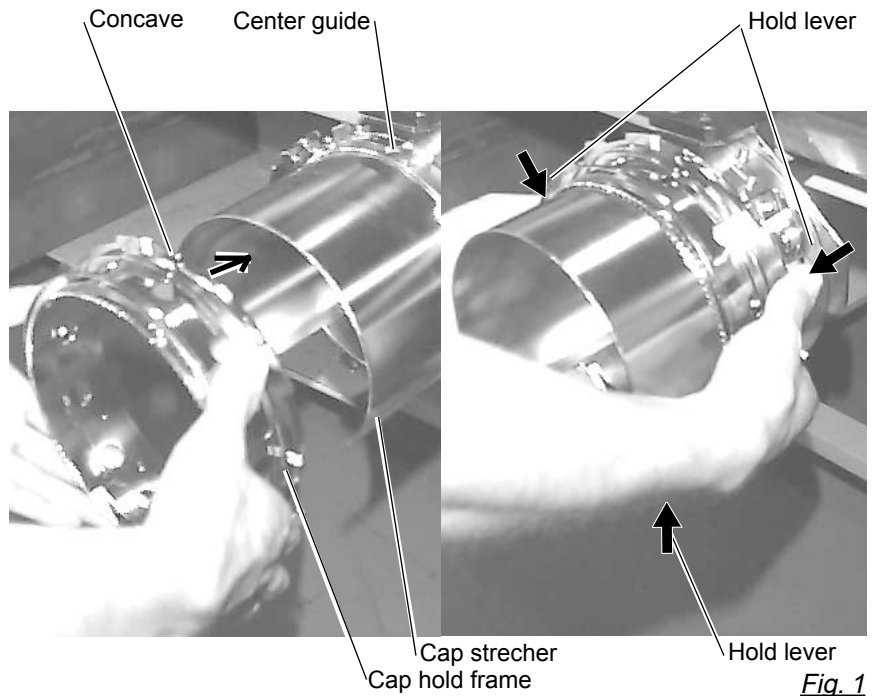

Fig. 1
2. As shown in Fig. 1, hold cap hold frame with both hands and place on cap stretcher. By pushing hold lever at 3 places in arrow marks with fingers, place cap hold frame so that center guide of cap stretcher gets in concave of upper cap hold frame.